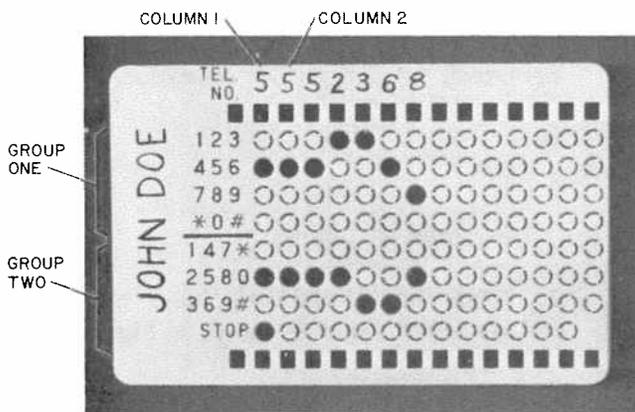

Fig. 3—Card Coded for 7-Digit Telephone Number
- (1) Write name and telephone number in spaces provided as shown in Fig. 3 and 4.
- (2) Convert exchange letters to numbers. For example: Use 2 for A, B, or C; 7 for P, R, or S; etc.
Note: There are two groups of numbers 1 through 0 on the card (Fig. 3).
- (3) In Fig. 3 the first digit of the telephone number is 5. In column 1, locate digit 5 in the first group of numbers and punch out the perforation with a pencil or ballpoint pen. In the same column, locate digit 5 in the second group of numbers and again punch out the perforation.